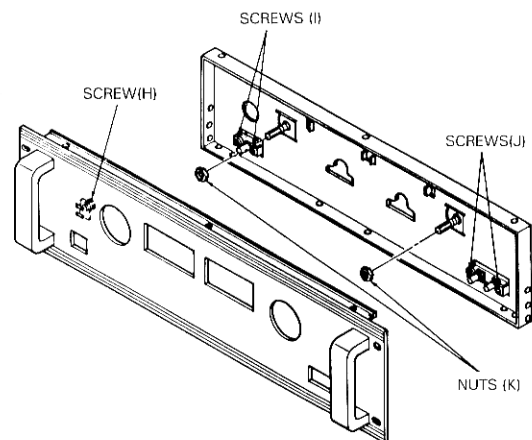

Fig. 4
- (a) Removal of Power Led PCB. (Fig.4)
- (b) Removal of Power Switch PCB. (Fig.4)
- (c) Removal of Push Switch PCB. (Fig.4)